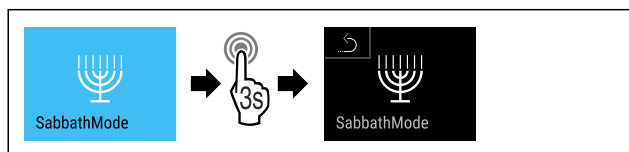

Fig. 13
- ▶ Complete the steps (see Fig. 13) .